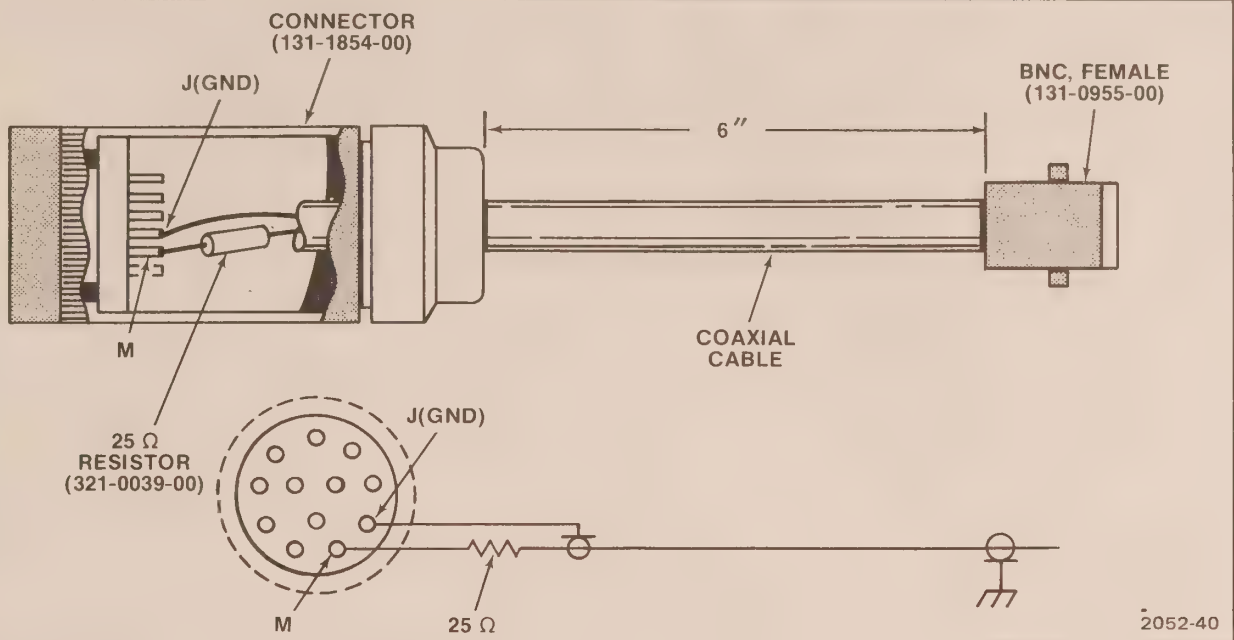

Fig. 3-1. Construction details for Special Adapter.
- a. Construct Special Adapter as shown in Fig. 3-1.